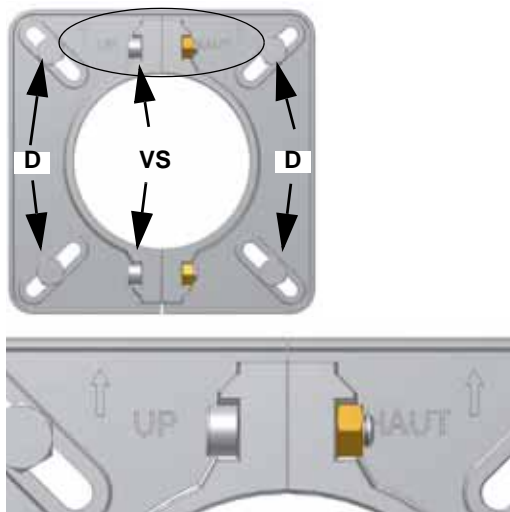

Fig. 3
- 4 according to the reference showed on Fig. 3, fix the flange to the boiler's stud bolts **D**, without completely fastening;